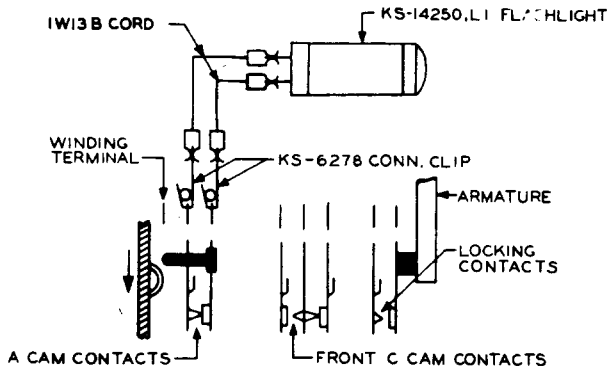

Fig. 22 - Connections for Checking Minimum Overtime Interval
(4) Overtime Registration - Minimum Timing Interval: Connect a flashlight to the proper spring terminals at the rear of the timer, as shown in Fig. 22. Rotate the timer gear manually until the "A" cam is almost in contact with the associated spring stud. Operate the timer by connecting ground to the right winding terminal connection at the top of the timer. The flashlight should light. After a short interval, the "A" cam contacts will open and again close. Start timing with the KS-3008 stop watch at the closure of the contacts. After a revolution of the timer gear, the contacts will open and again close. Cease timing at this closure of the contacts.